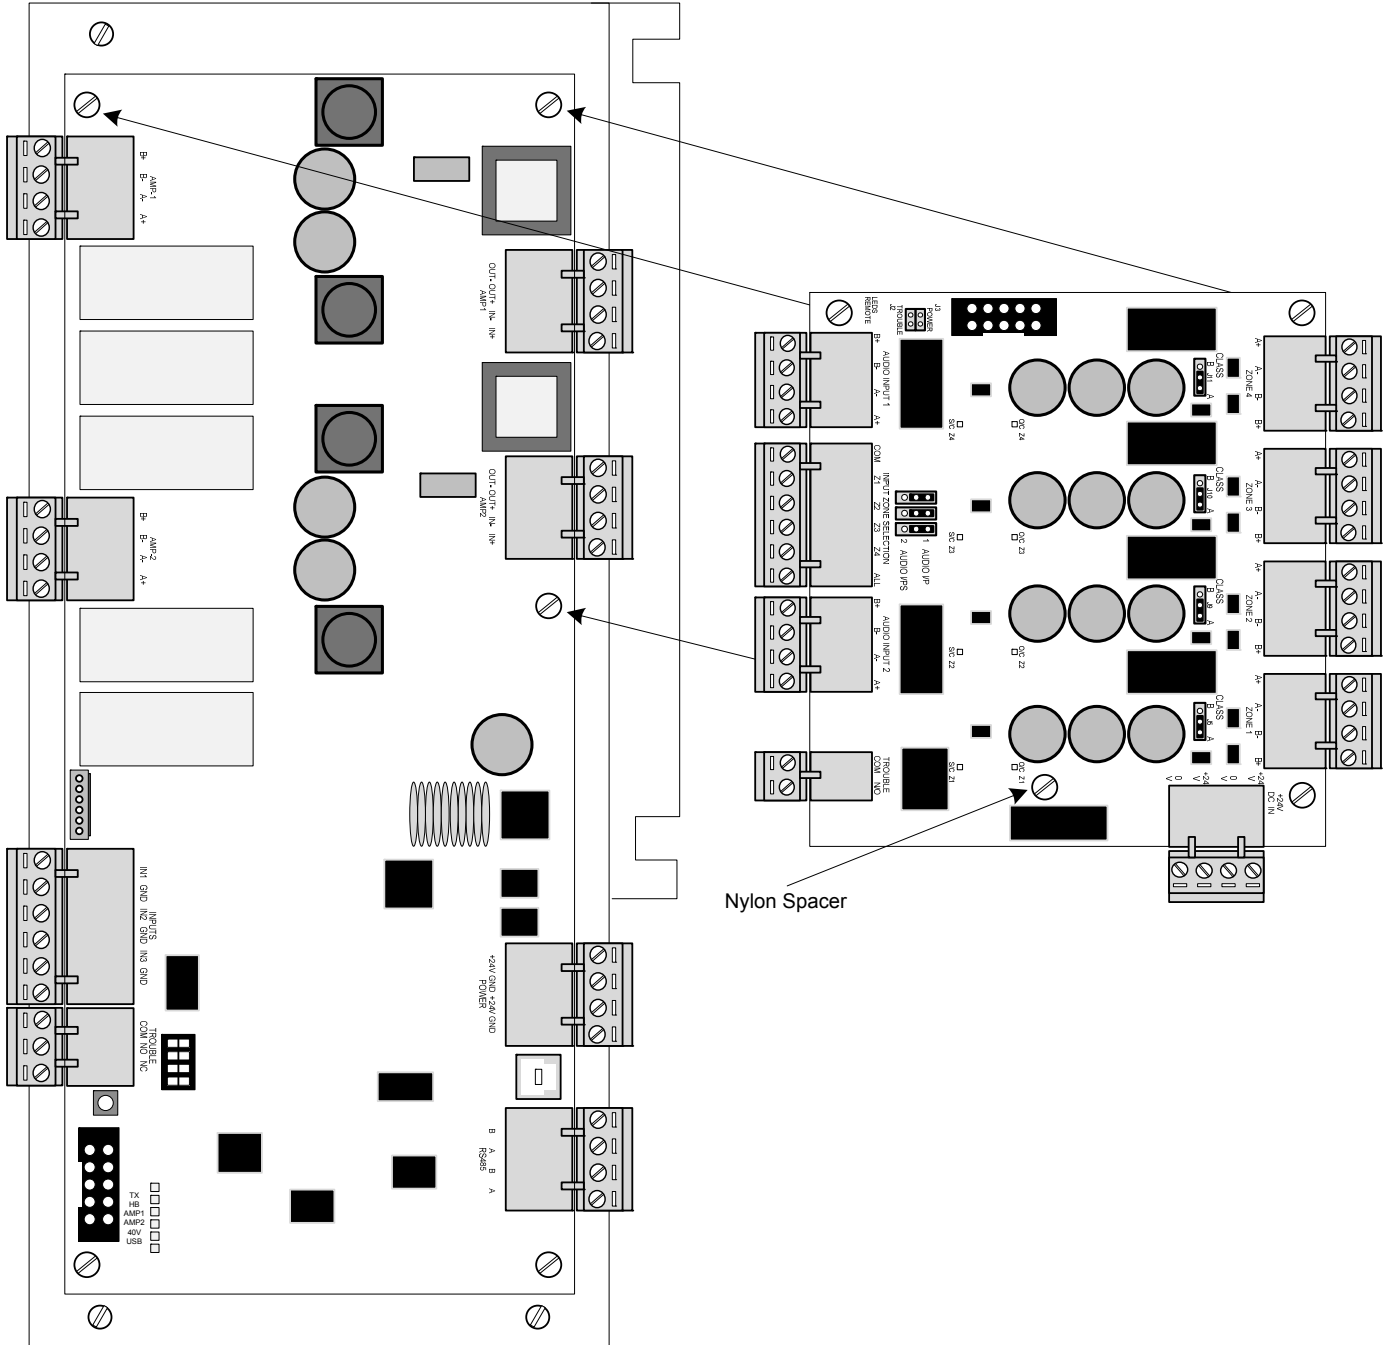

Figure 8 – PV-ZS Zone Splitter Module to Amplifier Module Mounting
The PV-ZS zone splitter module is supplied with three (3) metal hexagon spacers and one (1) nylon spacer. Remove the three (3) upper screws securing the amplifier module to its mounting plate and install the three (3) provided metal hexagon spacers. Install the provided nylon spacer into the fourth mounting hole on the PV-ZS zone splitter module (see figure 8).
Mount the PV-ZS zone splitter module above the amplifier module to the three (3) previously installed metal hexagon spacers and secure with the previously removed screws (see figure 8).